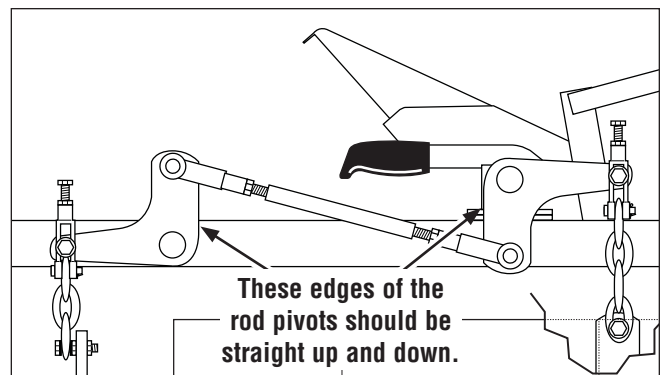

Figure 39. Checking the Deck Lift Rod Timing
2. To check the deck lift rod timing, set the cutting height adjustment to 3-1/4" (8,26 cm). Both the front and rear rod pivots should be straight up and down. See Figure 39.